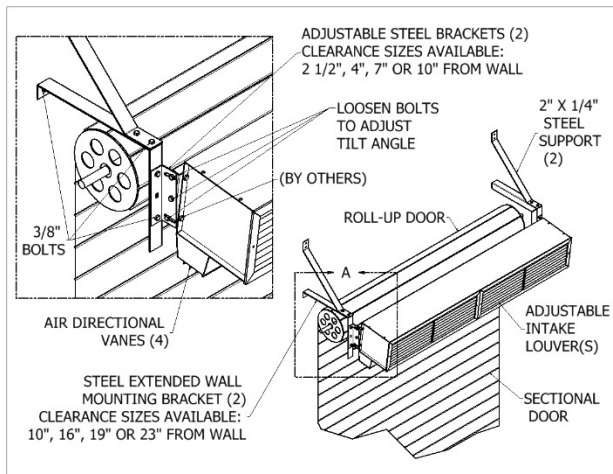

FIG. 6 (STD SHOWN)
2. Adjustable Mounting Brackets: For installation of air curtain over drum-style roll-up door, use Extended Wall Mounting Brackets. (FIG. 6)